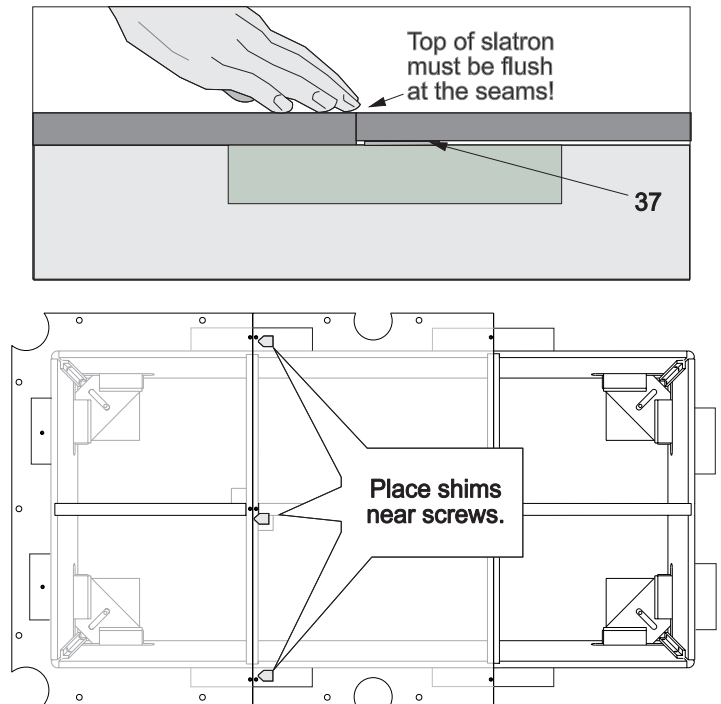

Figure 11
- D) Check with a carpenter's level to determine where slate/slatron is low on ends, and use finger tips to locate uneven spots at the seams. Loosen screws at these points and see if slate/slatron comes up to flush. If so, detach individual shims #37 from the sheet shipped with this table and place under these areas. **Place shims next to screws. (See Figure 11)**